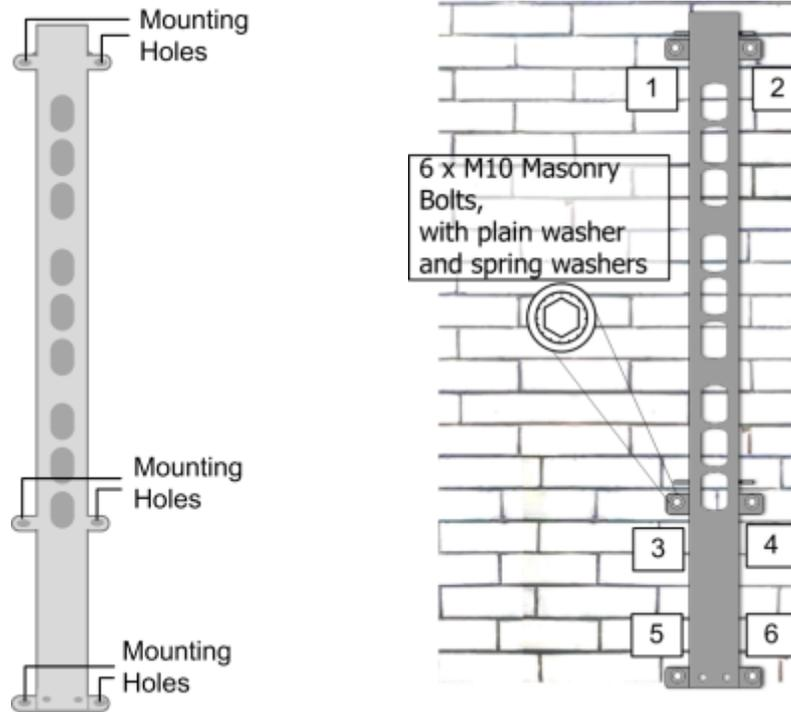

Figure 3-6. GX Mounting Bracket
2. Using the mounting bracket top and bottom mounting holes as a guide (refer to Figure 3-6):
3. Using six (M10 x 110) Masonry bolts per bracket – secure the mounting brackets to the wall with the protruding pins facing towards you. The GX quad-band will be hung on these. See Figure 3-6.